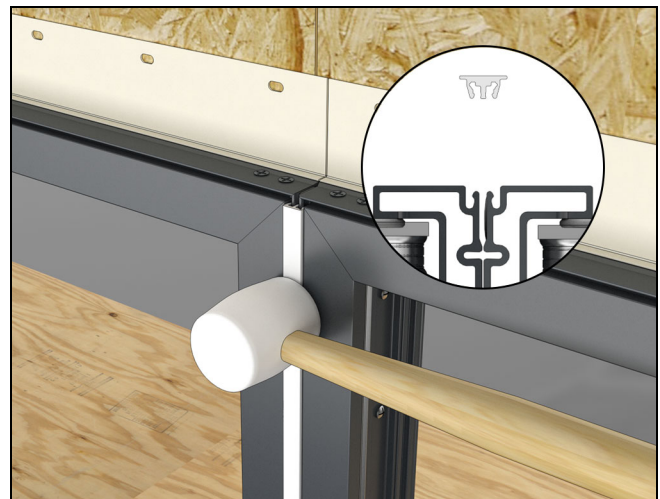

Figure 80
To ensure consistent alignment and reveal for the mull covers, it is critical that frames are flat and flush on both the interior and exterior. Gaps where the exterior covers install (See Figure 80) must be consistent along the entire length of each mull, and frames must be in tight contact with the mull pin where the interior covers install. See Figure 83.
3. Apply the exterior covers. These can be seated with a rubber mallet. Make sure the covers are flush to the exterior accessory kerf. See Figure 80.